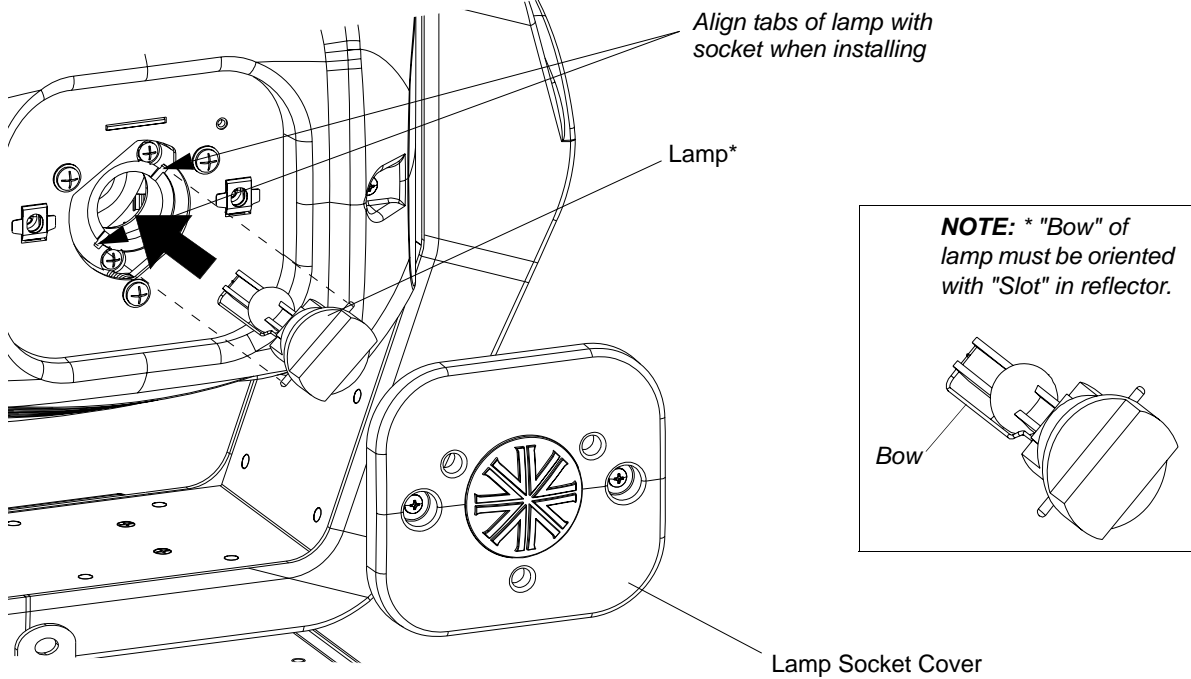

Figure 2-3: Lamp Installation
Step 6. As shown in Figure 2-3, align lamp tabs with lamp socket.